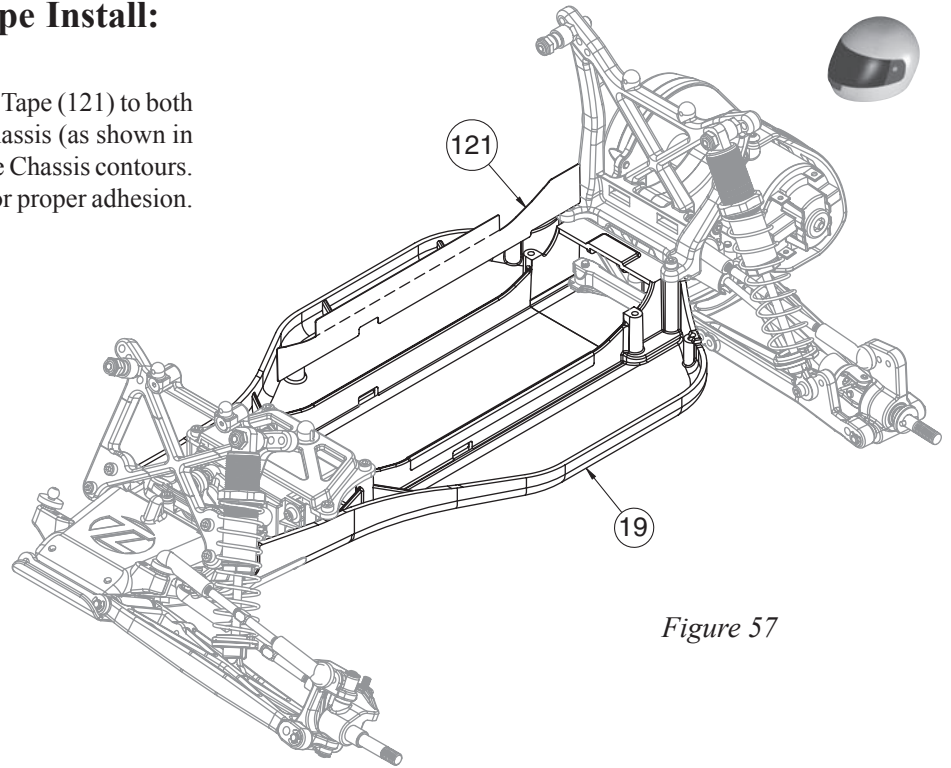

Figure 57
- 1. Apply the Self Adhesive Battery Insulation Tape (121) to both inner edges of the battery compartment on the Chassis (as shown in Fig. 57) by aligning the cut-outs and edges with the Chassis contours. Fold the Tape over the top edge the Chassis rails for proper adhesion.